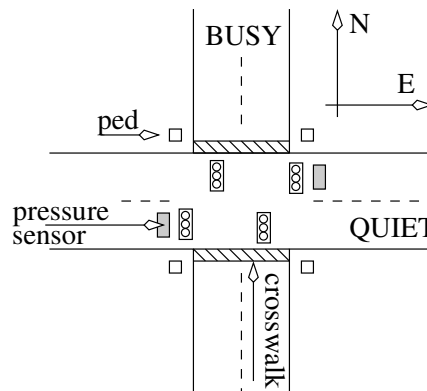

Figure 7.27: The layout of a four way intersection.
14. **(36 pts.)** Construct a digital circuit to control the movement of traffic at the four way intersection shown in Figure 7.27.